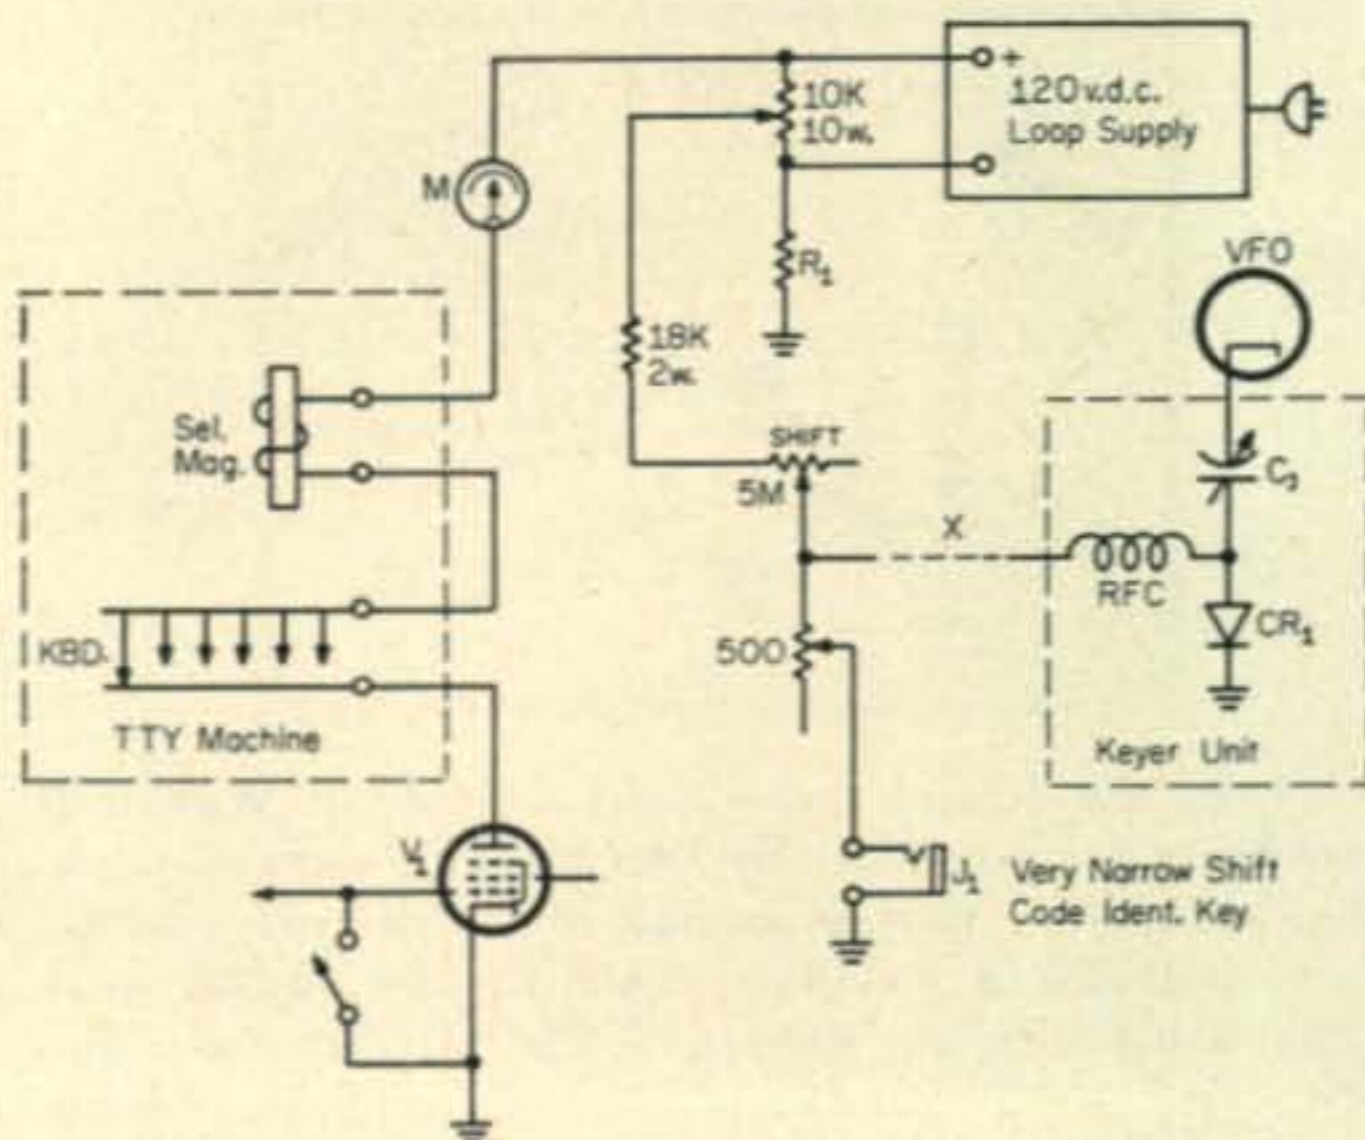

Fig. 1—FSK-E shift system of K8DKC, schematic diagram.
Figure 1 shows the schematic diagram of K8DKC's f.s.k. system. It was designed to work primarily with the type of terminal unit (TU) or converter that has a high current pentode tube, like a 6W6GT, 6Y6GT, etc., with the Teletype machine receiving selector magnets and the keyboard all in series with the 120 volt "loop" supply. (RTTY, Jan. '63, page 3). It can also be used with a TU that has polar relay output. Instead of the circuit going from the machine to the tube V_1 , it would go through the polar relay contacts to ground. For the usual loop supply of 120 volts, R_1 would be 6000 ohms,